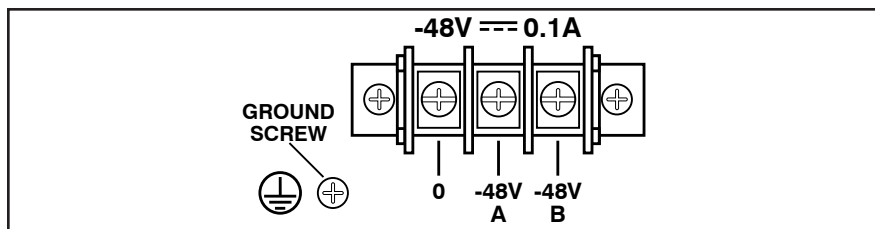

Figure 4.1: Terminal Block Assembly (DC Units Only)
- ① **Phone Line Port:** For connection to your external phone line.
- ② **Network Port:** An RJ45 Ethernet port for connection to your 10/100Base-T, TCP/IP network. Note that the RSM features a default IP address (192.168.168.168). This allows you to connect to the unit without first assigning an IP address. Note that the Network Port also includes two, small LED indicators for Link and Data Activity. For more information on Network Port configuration, please refer to Section 5.7.3.
- ③ **RS232 Serial Ports:** For connection to console ports on target devices. Standard DB9 connectors configured as DTE ports. The RS232 ports are similar to a serial port on a PC. When connecting a modem, use a standard serial cable. When connecting a PC or other DTE device use a null modem cable.
- ④ **Power Inlet:** An IEC-320-C14 inlet, for connection to your 100 to 240 VAC power supply. Note that RSM-16DC and RSM-32DC units (-48 VDC powered models) include a terminal block assembly (see Figure 4.1) in place of the power inlet. For more information, please refer to Section 4.1.
- ⑤ **Power On/Off Switch**